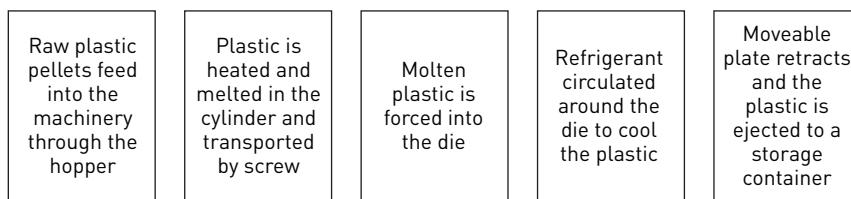

Figure 11-17
7. Enter the text identified for the five injection molding process steps from Table 11-8 as shown in Figure 11-17.